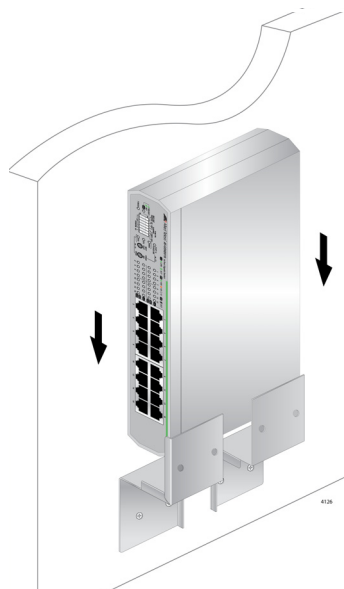

Figure 19. Placing the Switch into the Brackets
8. Slide the switch into the brackets on the wall as shown in Figure 19.